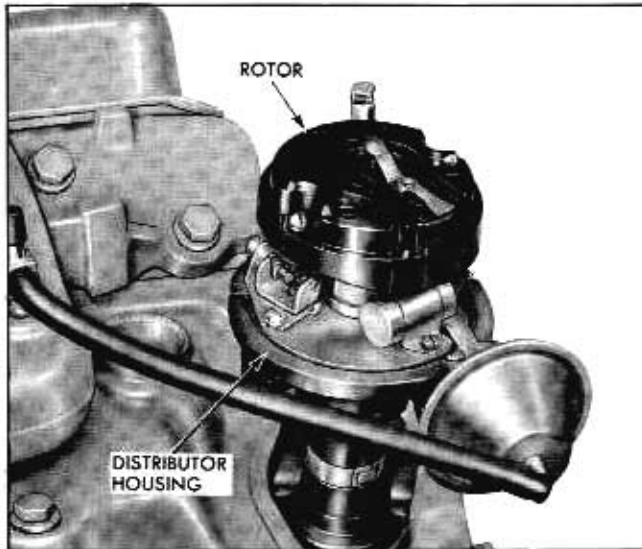

Fig. 11-43 Relationship of Distributor Housing and Rotor in Firing Position for No. 1 Cylinder—4 Cylinder Engine
3. Before installing distributor, index rotor with housing as noted when distributor was removed. This will simplify indexing the distributor shaft and gear with the oil pump drive shaft and the drive gear on the camshaft. Distributor and rotor will be positioned as shown in Figures 11-43 and 11-44 when properly installed with No. 1 piston in firing position.